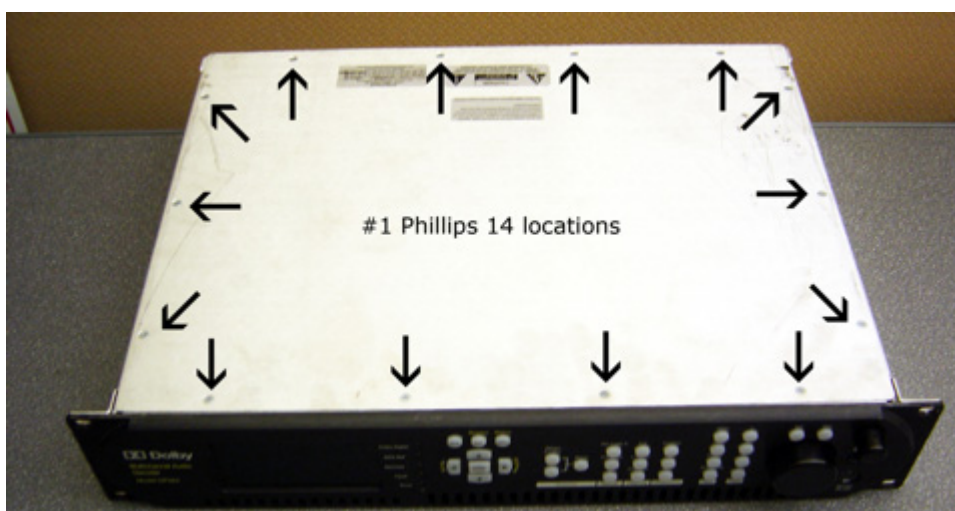

Figure 1 Top-Panel Screws
2. Remove the 14 Phillips head screws holding the top cover in place. Figure 1 shows the screw locations.